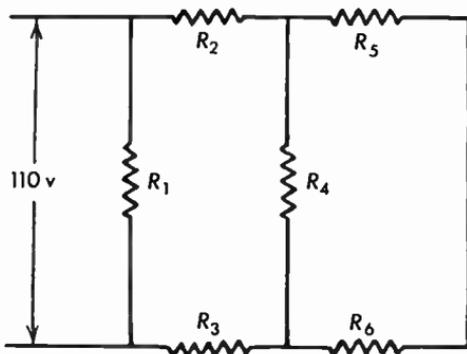

Fig. 2.19a Series-parallel circuit, conventional layout.
2.19 In Figure 2.19a,  $R_1 = 80$  ohms,  $R_2 = 3$  ohms,  $R_3 = 8$  ohms,  $R_4 = 6$  ohms,  $R_5 = 12$  ohms,  $R_6 = 5$  ohms. Find the voltage across  $R_5$ .